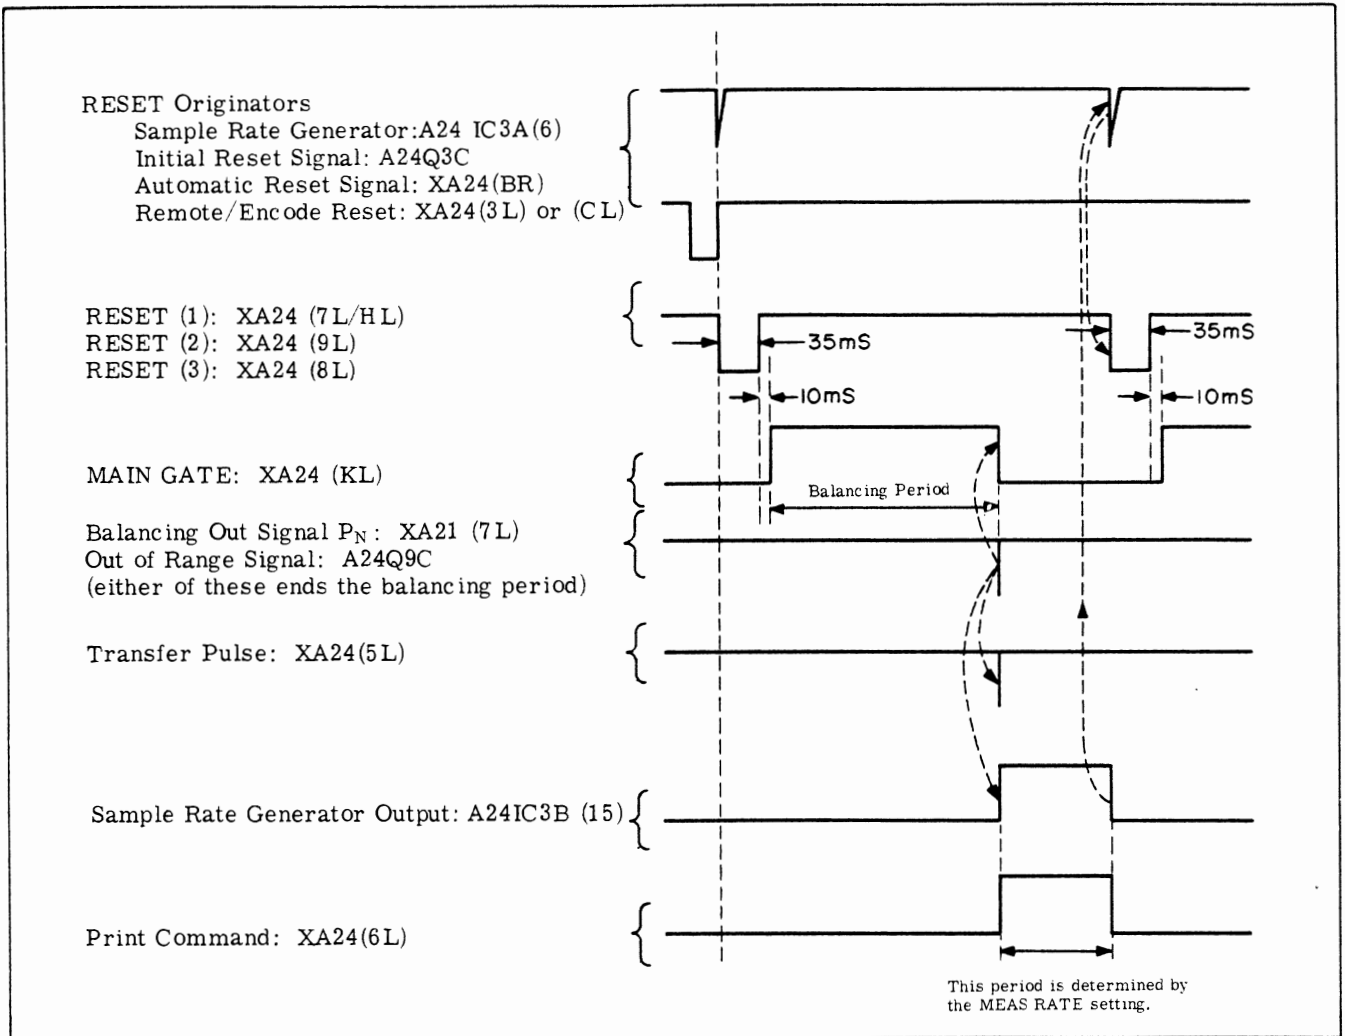
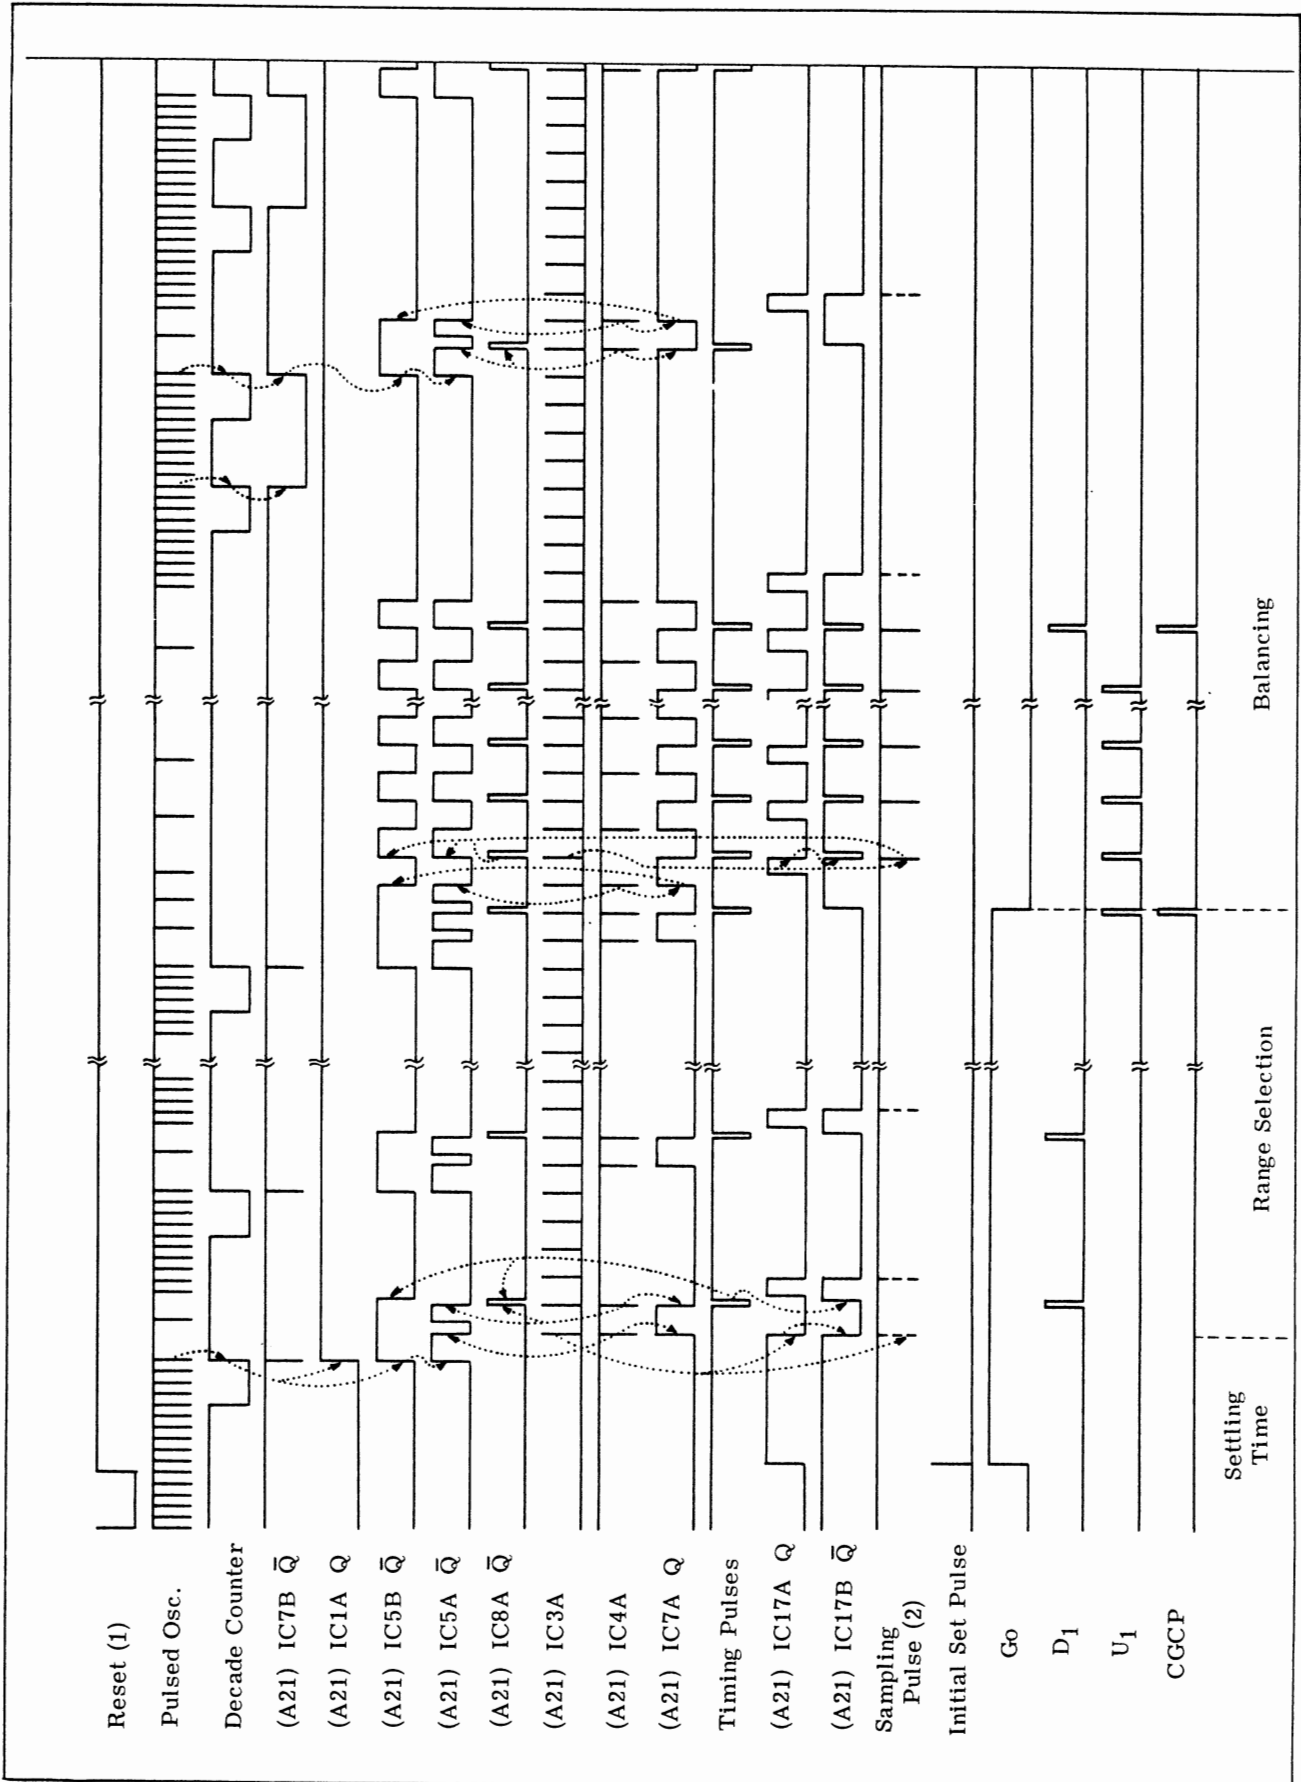
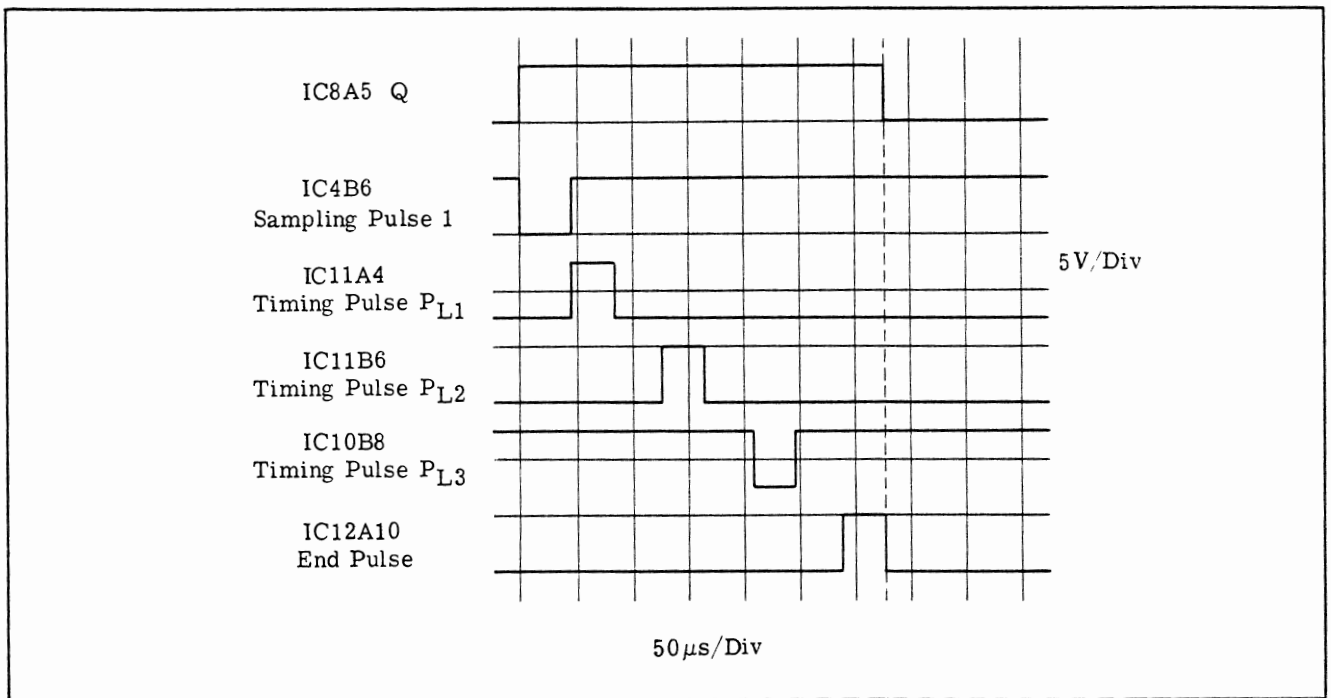

Figure 4-4. Timing Diagram
Figure 4-5. Timing Diagram on AUTO
Figure 4-7. Sampling Pulse 1 and Timing Pulse (PL1, PL2, PL3)
4-56. The Main Gate in A21 is enabled after a 10mS delay on receiving the Reset signal, it remains open during the balancing operation and closes when the Null circuit in A20 detects the bridge balance and produces the balancing out signal PN. The timing diagram of the Main Gate signal and its relevant signals are shown in Figure 4-4.
4-89. The Timing Circuit Assembly (A21) and the Reset Assembly (A24) supply the various synchronization, sampling, reset and timing pulses for the timing operation of the bridge. Figure 4-4 in paragraph 4-55 shows a simplified timing diagram for one balancing cycle. Figures 4-5 and 4-6 illustrate the detailed timing sequence of one balancing period on AUTO and on HOLD and TRACK. Figure 4-7 shows a magnified waveforms Sampling Pulse 1 and Timing Pulses.
4-95. Detailed Timing Diagrams, Figure 4-5 and 4-6 illustrate two different timing conditions, (1) AUTO RANGE MODE (2) HOLD or TRACK RANGE MODE. The difference depends only on Go signal ("1" during range selection) which goes HIGH at the initial set pulse on AUTO.
4-96. AUTO RANGE MODE TIMING (refer to Fig. 4-5).
4-99. Range Selection Time: After the settling time the first pulse ($0.6\mu\text{s}$ width) through IC3A toggles IC5A \bar{Q} to LOW and IC7A \bar{Q} to HIGH. The IC5A \bar{Q} LOW starts the pulsed oscillator to oscillate. IC7A \bar{Q} (HIGH) opens the Diode Switch of Integrator A19. The integrator starts to integrate. The first pulse ($3\mu\text{s}$ width) from the pulsed oscillator resets IC5A \bar{Q} to HIGH which inhibits the pulsed oscillator. After IC5A \bar{Q} is reset to HIGH, the first synchronizing pulse from IC4A toggles IC5A \bar{Q} to LOW, IC7A \bar{Q} to LOW and IC8A \bar{Q} to HIGH. This IC8A \bar{Q} (HIGH) produces five synchronized pulses Sampling Pulse 1, PL1, PL2, PL3 and End Pulse, refer to Figure 4-7. The end pulse in conjunction with Go signal from A20 toggles IC5B \bar{Q} to LOW and provides reset for IC8A/B, IC9A/B, and IC17B. During this interval a generated sampling pulse 1 compares the unknown capacitor with $.1600\mu\text{F}$.